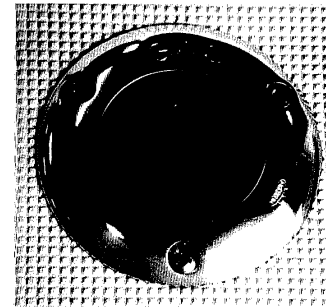

Figure 14
5. A special key to unlock the fuel cap is given to you. Insert the key in the slot in the fuel cap. The fuel cap is mid-ship in the covering board on the port side of the boat. See figure 14.